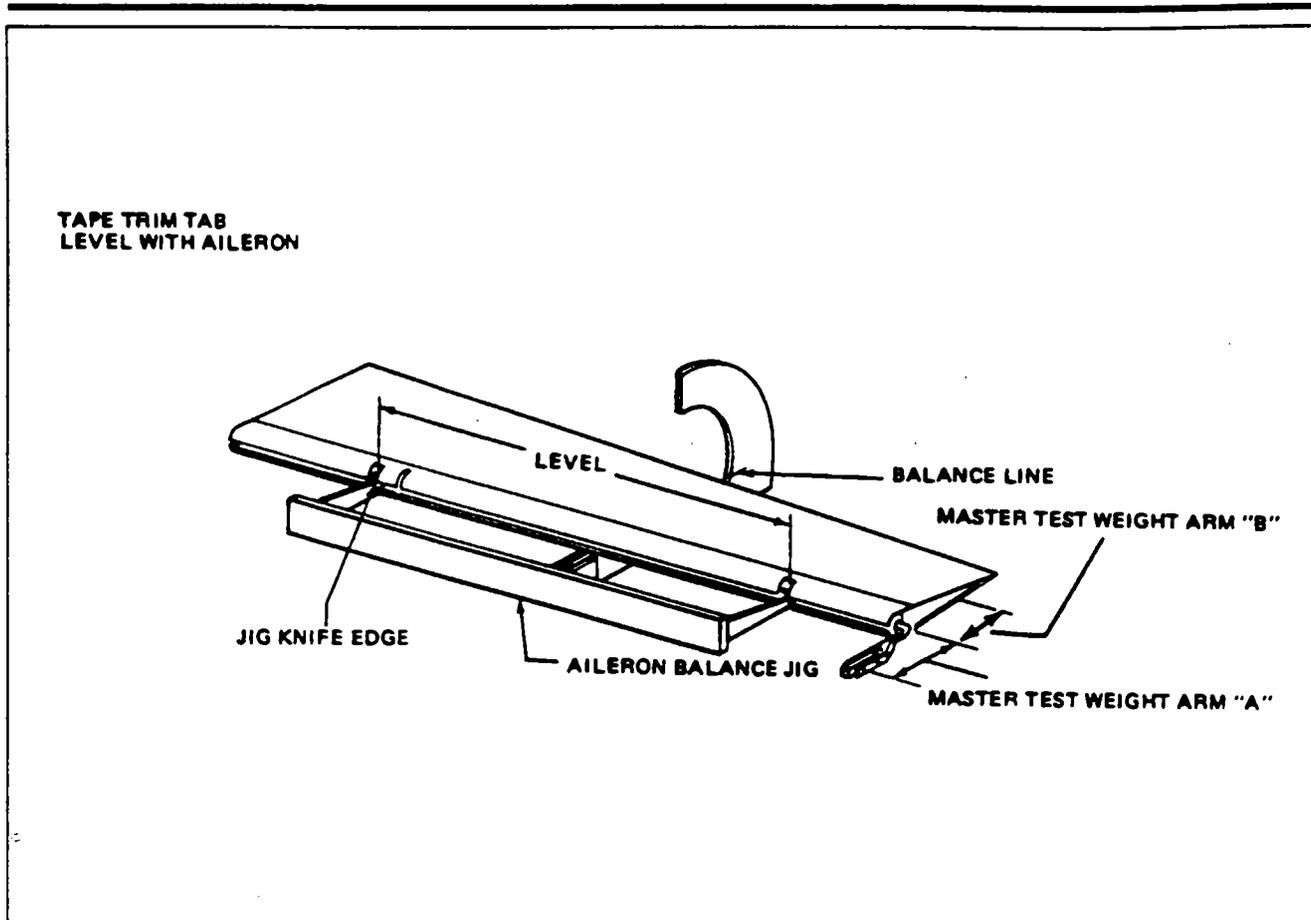

Figure 57-5. Aileron Balancing
AILERON BALANCING PROCEDURE. (Refer to Figure 57-5 and Chart 5701.)
2. Place the aileron on a balancing jig as illustrated in Figure 57-5. Establish a horizontal reference mark which aligns with the trailing edge of the aileron when it is held in a horizontal level position (chord line level).
- B. If the surface is leading edge heavy, place the master test weight (0.0 to 0.5 lbs.) 6 inches behind the hinge line. (Refer to Figure 57-5, Master Test Weight Arm "B.") If the surface balances or is trailing edge heavy, it is satisfactory.
- D. If the surface is trailing edge heavy, add trim weights (P/N 54395-2) to produce a balanced condition. Do not use more than three (3) trim weights P/N 54395-2, and one (1) trim weight P/N 54395-3.